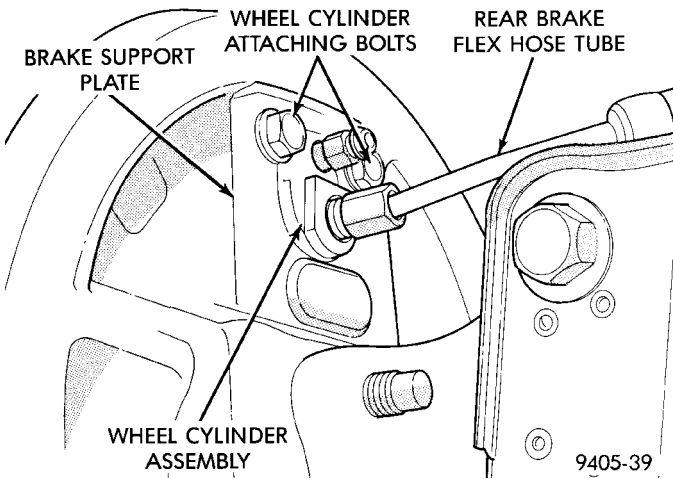

Fig. 92 Brake Flex Hose Tube At Wheel Cylinder
(5) Remove the rear brake shoes from the brake support plate. Refer to Rear Brake Shoes in the Removal And Installation Section in this group of the service manual for the proper brake shoe assembly removal procedure.
(6) Disconnect the rear brake flex hose tube from the wheel cylinder (Fig. 92).